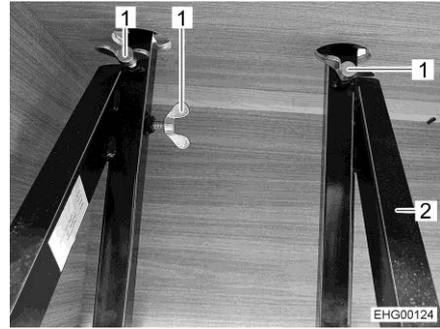

Fig. 33 Wing screws
- Tighten the three wing screws (Fig. 33,1) on the rods (Fig. 33,2) in the chest frame.